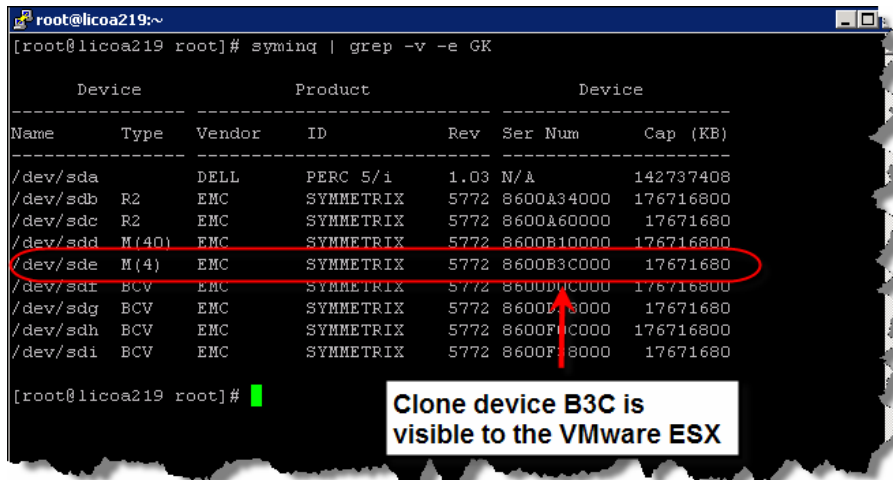

Figure 13. Determining devices presented to the ESX Server on the recovery side
1. Ensure the target of the cloning operation is presented to the appropriate VMware ESX servers at the recovery site. Figure 13 shows the execution of this step for testing the recovery plan associated with the datastore “srm_async”.